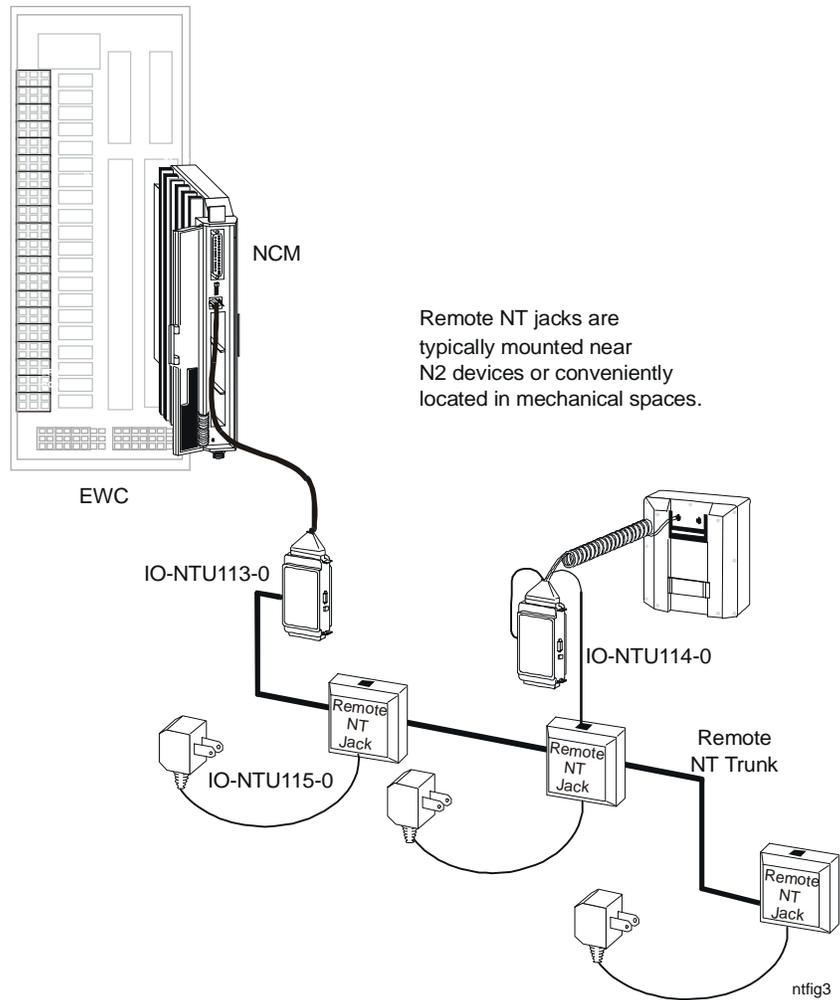
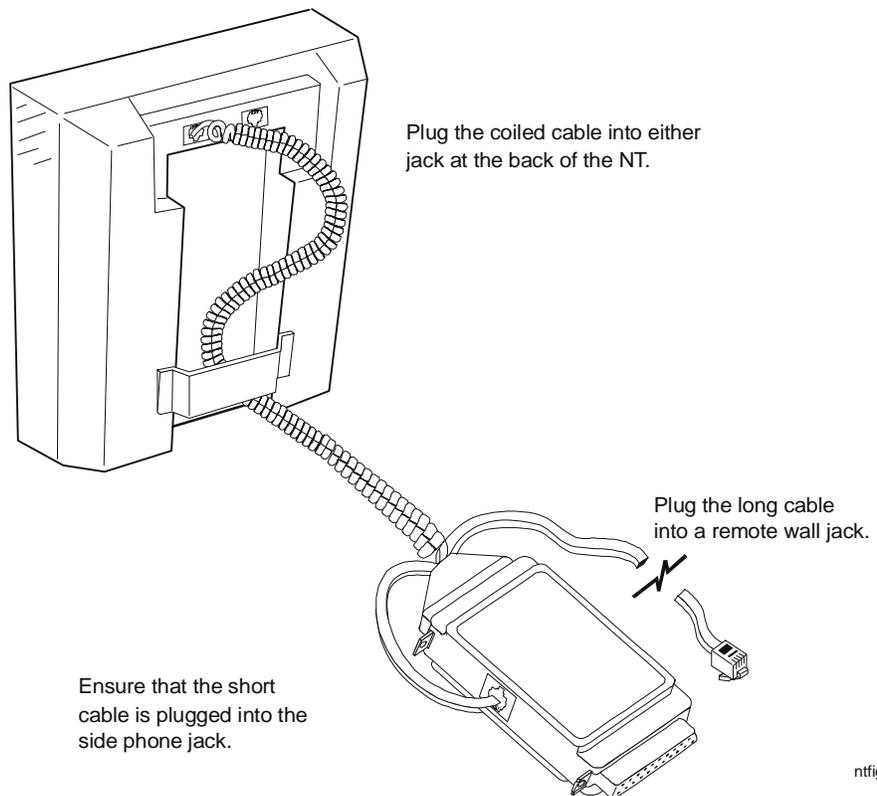

Figure 3: Remote Network Terminal Connections
Figure 5: Installing the IO-NTU114-0
Figure 3 diagrams the Remote Network Terminal (RNT) connections within a typical configuration, consisting of three remote access points. By unplugging the modems, you may also install the NT directly into the NCM.
IO-NTU114-0 (Figure 5)
2. Plug in the supply. Verify 5 VDC at Terminals 2-7. Connect the NTU114 cable into any remote wall jack (NTU115) via the flat cable assembly. See Figure 3 and Figure 5.